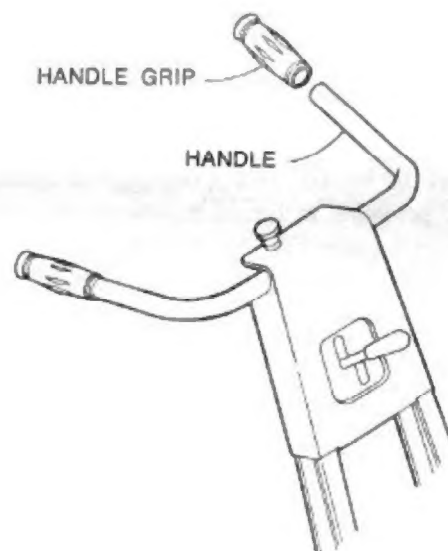

FIG. 11
10. Slide handle grips\* onto the handle, Fig. 11. If grips will not slip on completely, tap end of grip with a block of wood and hammer until grip is all the way on.